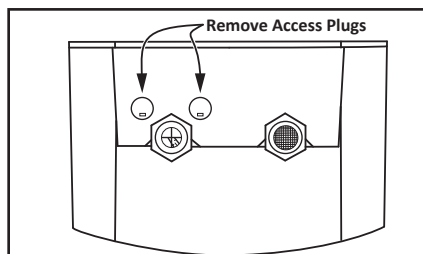

Figure 15 - Removing access plugs.
- 4 If needed, remove the top two access plugs located next to the outlet nipple with a flat head screwdriver. See Figure 15.